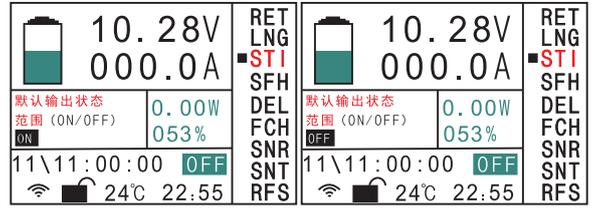

Figure 4-12
12). "**STI**" Default relay output state when power on setting option. If you select **ON**, the discharging relay will be automatically closed. If you select **OFF**, the charging and discharging relays will not be closed. You need to press the button to switch on or off the charging and discharging, as shown in Figure 4-12.